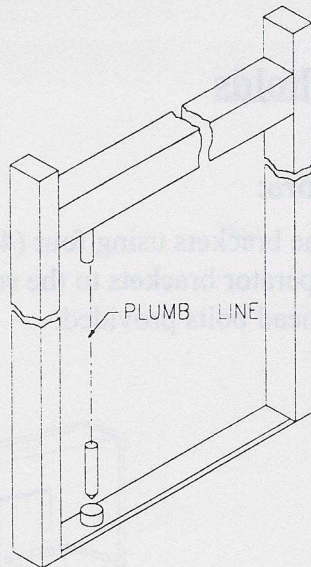

Figure 11: Installing the bottom pivot.
2. Find the exact location for the lower pivots by dropping a plumb line from the center of the operator spindle to the center of the pivot. (See Figure 11)